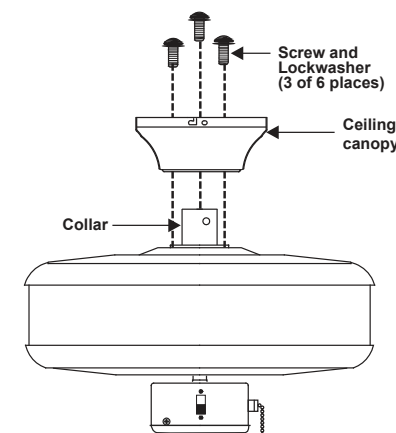

Figure 11
4. Remove three of the six screws and lock washers (every other one) from the collar of top motor. (Fig. 11)
5. Place the ceiling canopy over the collar at the top of the motor. Align the mounting holes with the holes in the motor and fasten using the screws and lock washers provided. (Fig. 11)
6. Tighten the mounting screws securely. (Fig. 11)